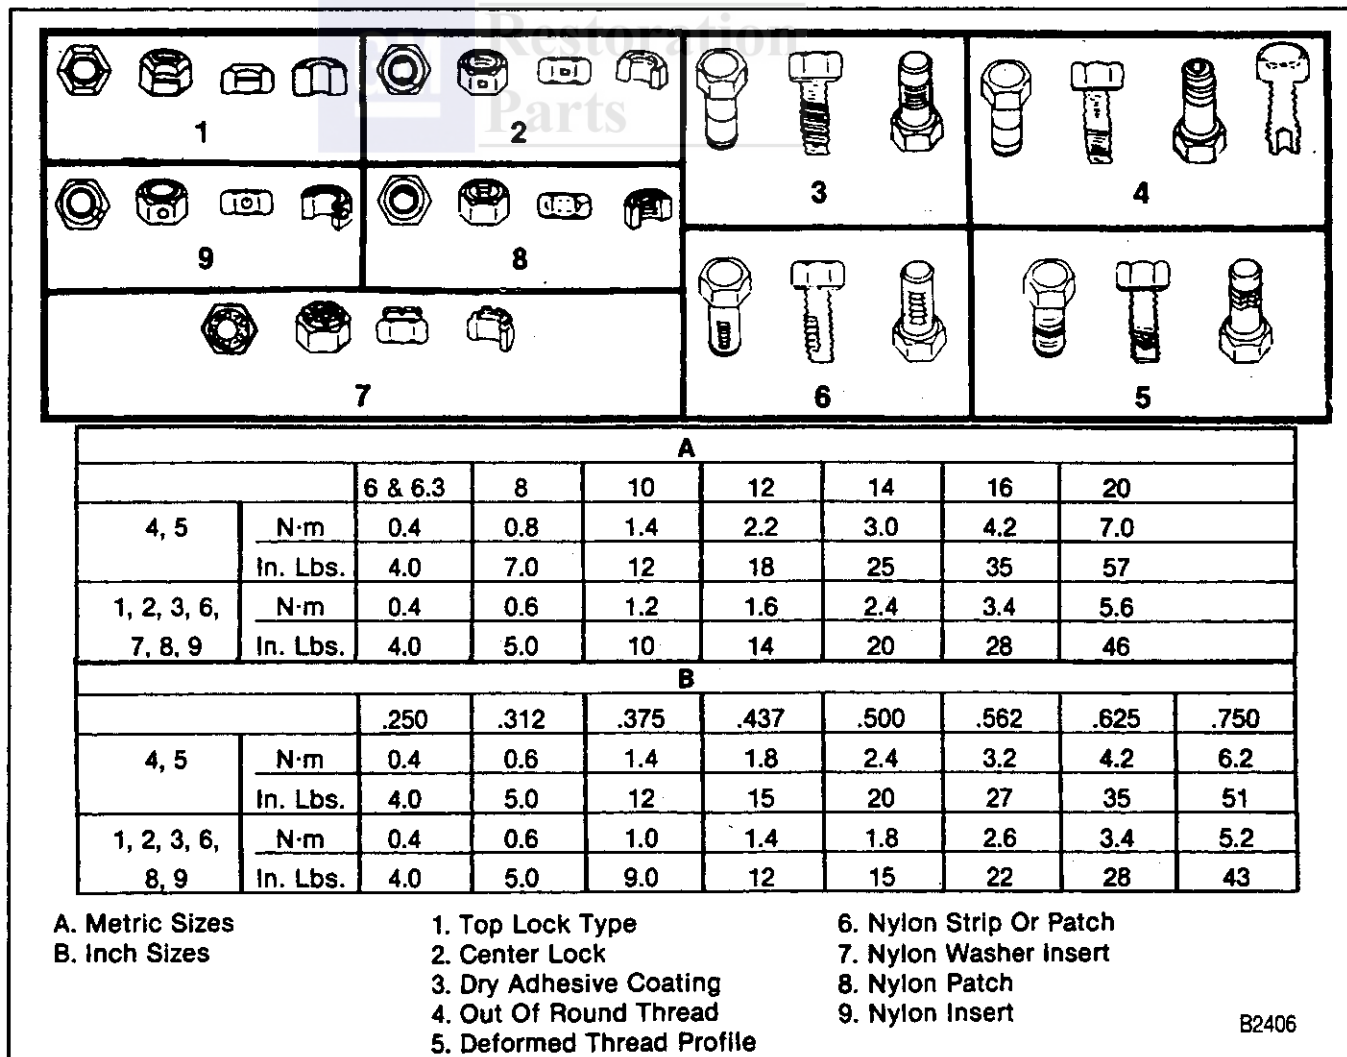

Figure 25—Prevailing Torque Nuts and Bolts
A prevailing torque nut is designed to develop an interference between the nut and bolt threads. This is most often accomplished by distortion of the top of an all-metal nut by using a nylon patch on the threads in the middle of the hex flat. A nylon insert may also be used as a method of interference between nut and bolt threads (figure 25).
- Observe that, before fastener seats, it develops torque per the chart in figure 25. (If there is any doubt, replace with a new prevailing torque fastener of equal or stronger strength.)